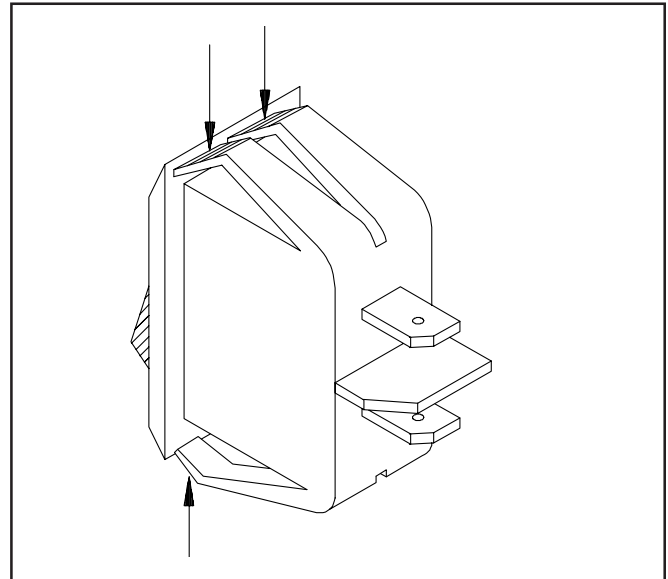

Fig. 6 - Switch Removal
2. Squeeze the four retaining tabs together and push the switch through the hole. Figure 6.